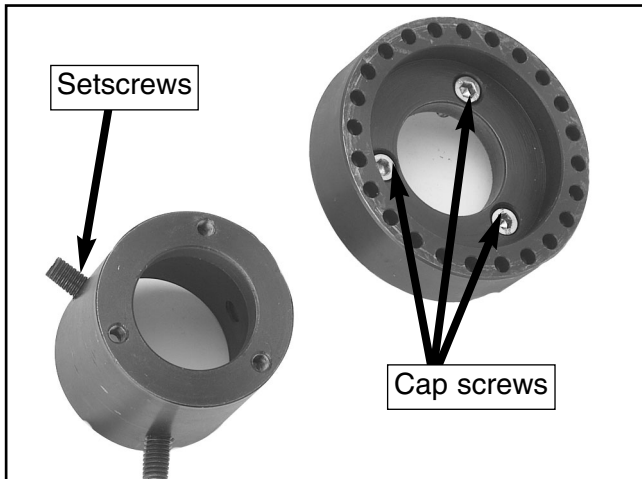

Figure 2. Hub separation.
2. Unscrew the cap screws, shown in **Figure 2**, holding the two pieces of the hub adapter together. Note—*The hub adapter halves are machined for a very tight fit. Once the cap screws are removed, hit them apart with a rubber mallet.*